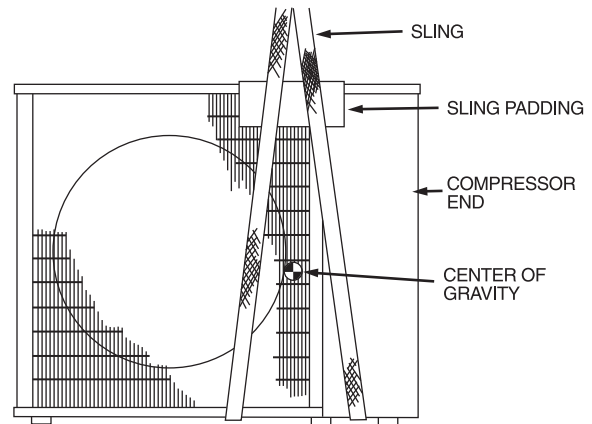

Fig. 15 - Lifting Unit with Sling
1. Rig the unit. Keep the unit upright and lift using a sling. Use cardboard or padding under the sling, and spreader bars to prevent sling damage to the unit. See Fig 15. See Fig. 2 through Fig. 5 for center of gravity reference